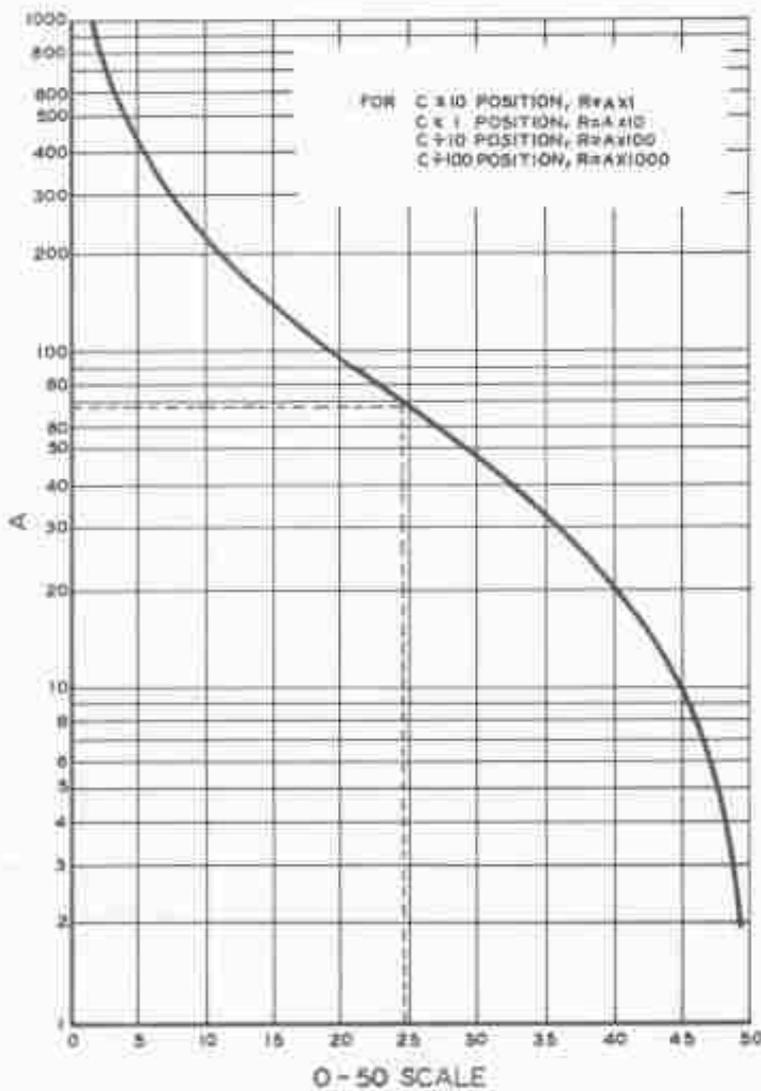

Figure 4-3. Resistance Curve for Capacity Meter Section
(1) RESISTANCE. - When measuring resistance connect the unknown resistor to the jacks of the capacity meter section of the Tube Tester and set the CIRCUIT SELECTOR switch at $C \times 10$, $C \times 1$, $C \div 10$, or $C \div 100$, whichever position gives a reading on the scale. Read the zero to 50 scale and refer to figure 4-3 to determine the resistance value.
Most power transformers and inter-stage audio coupling transformers have Q 's in the order of 1 to 3 at audio frequencies. For a Q less than 1, measure the component as a resistor, using the resistance curves of figure 4-3.